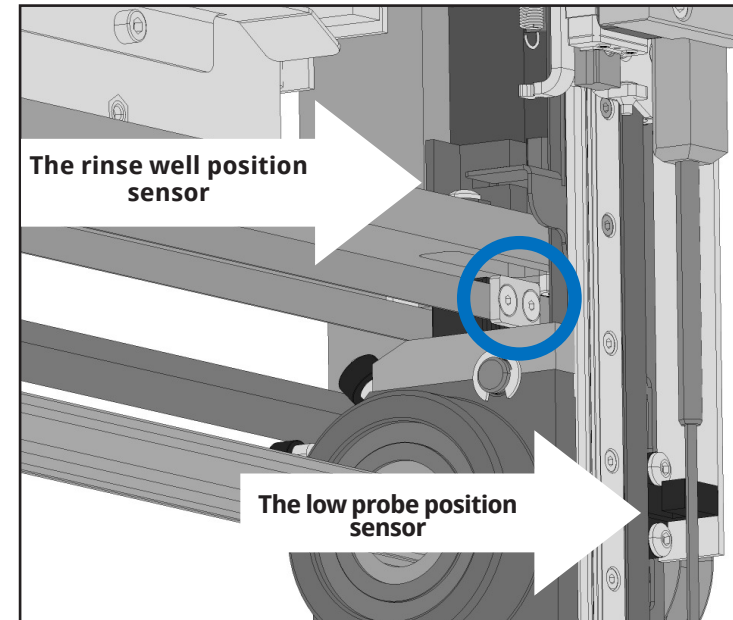

Figure 50: The location of the horizontal motor timing belt clamp screws and two of the linear robot position sensors
2 Unscrew the two (2) 1.5-millimeter screws that clamp the horizontal motor timing belt to the casing of the linear bushing that moves along the ball spline shaft (Figure 50 indicates the position of the screws when you look inside the device through the front doors).
i You can see the Rinse well position sensor in Figure 50. You can find its counterpart, the Test tube position sensor at the other end of the same bracket.